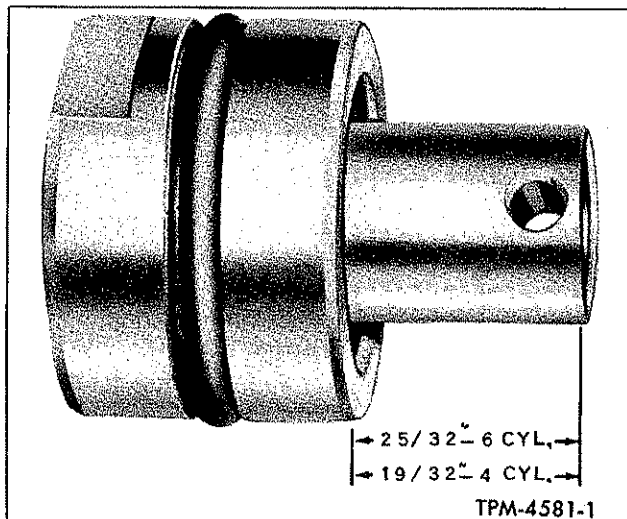

Figure 64—High Speed Piston Preliminary Setting
6. If sleeve and piston have been separated they should be threaded together until a preliminary measurement of $2\frac{5}{32}$ " for 6-71 or $1\frac{9}{32}$ " for 4-71 engines is obtained (fig. 64).
4. Measure distance from end of piston to end of sleeve (fig. 64). This dimension should be approximately $2\frac{5}{32}$ " for 6-71 or $1\frac{9}{32}$ " for 4-71 engines.
5. Should it be necessary to increase engine RPM the dimension, shown in Figure 64, should be increased. Also, when necessary to decrease engine RPM the dimension, shown in Figure 64, should be decreased. NOTE: Each full turn of piston and sleeve will change engine approximately 100 RPM.